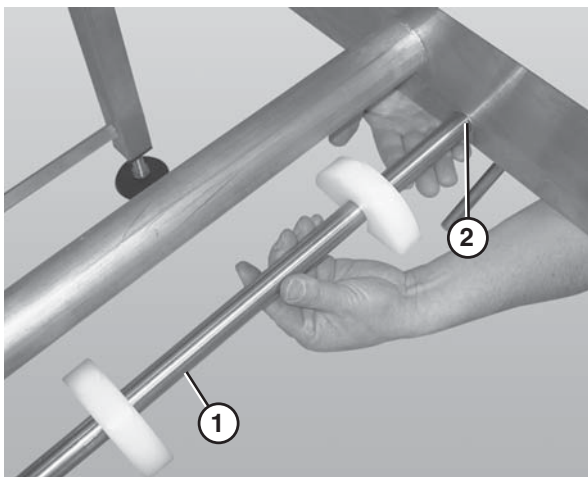

Figure 46
1. Remove the belt returns by pushing up on the return shaft (**Figure 46, item 1**) and sliding it through the large hole (**Figure 46, item 2**) in the frame.
2. Lower the opposite end of the return shaft (**Figure 46, item 1**) and slide it out of the frame.